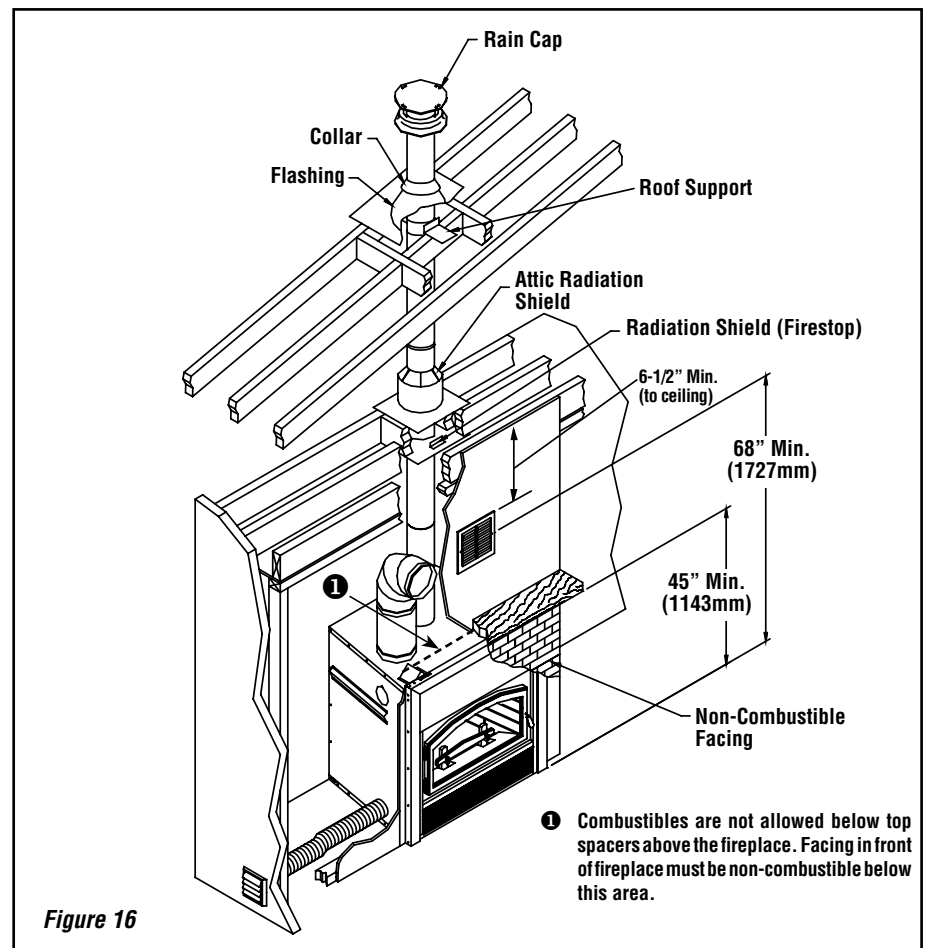

Figure 16
- c) The fireplace facade can be covered with non-combustible material (**Figure 16**).